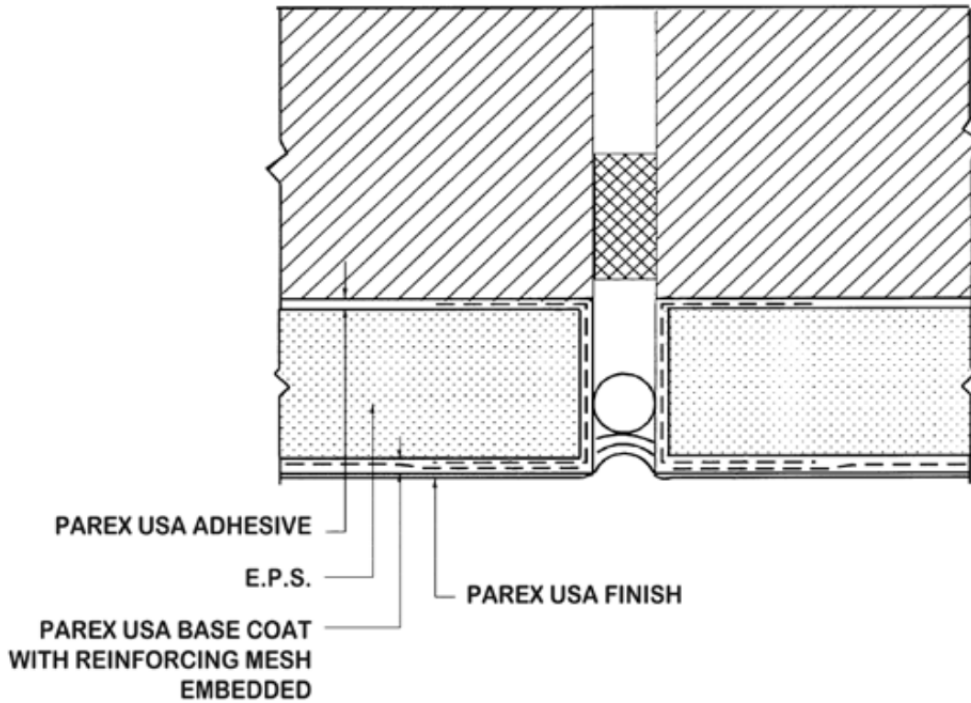

FIGURE 1
Sealants provide two vital functions: (1) They effectively seal joints between adjacent materials against the weather; and (2) they absorb thermal expansion and contraction. In general, sealant joints are constructed similar to Fig.1 below. Parex USA requires the surface of the system which will receive the sealant to be either mesh reinforced base coat or track. Do not return finish into the joints or other areas to receive sealant. Sealants are applied in strict conformance with the sealant manufacturer's recommendation.